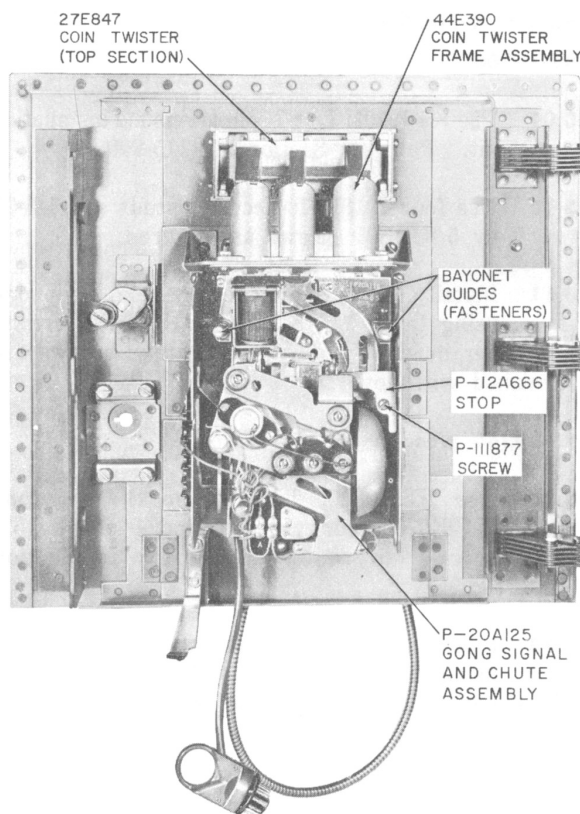

Fig. 9—Rear View of Door and Liner Assembly
- (1) Loosen screws in middle of twister assembly (Fig. 9).
- (2) Lift P-27E847 coin twister (top section) up and out.
- (3) Remove screws and nuts holding P-44E390 coin twister frame assembly (Fig. 9).
- (4) Lift frame assembly up and off.
- (5) Install, using reverse procedure.
- (2) Remove P-111877 screw and P-12A666 stop (Fig. 9)
- (4) Loosen two P-11E183 bayonet guides on chute assembly (Fig. 9).
- (5) Lift gong signal and chute assembly off.
- (6) Install, using reverse procedure.